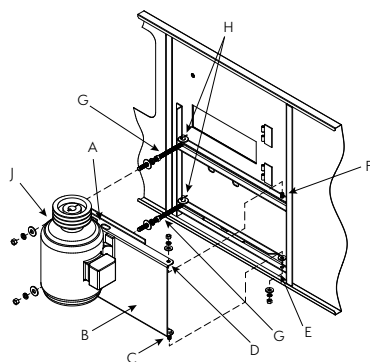

Figure 19 — External Motor Installation
All units narrower than 10' (3m) wide have their motors installed outside the unit in a shaft up configuration as shown in **Figures 19 and 20** below. Due to shipping width restrictions, these motors cannot ship mounted on the units since they would extend past the width of the truck. For this reason, the motor(s), motor base(s), motor guard(s), "J" bolts, pivot pins and belt(s) are shipped in the cold-water basin of the cooling tower. Please follow the step-by-step instructions below to properly install these components.
1. Study **Figure 19** above before installing the motor base on the unit.